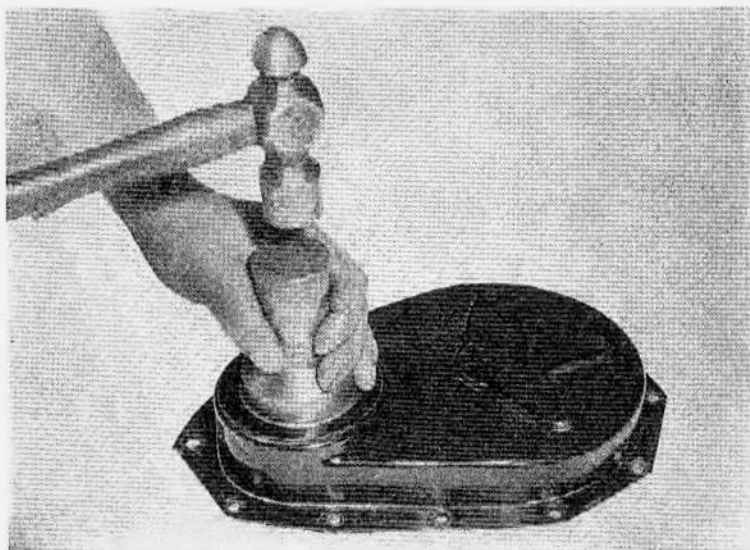

Figure 41 – Replace Timing Gear Cover Oil Seal
(1) Pry old oil seal out of cover from the front with a large screwdriver.
(2) Drive in new oil seal with oil seal replacer (Fig. 41).